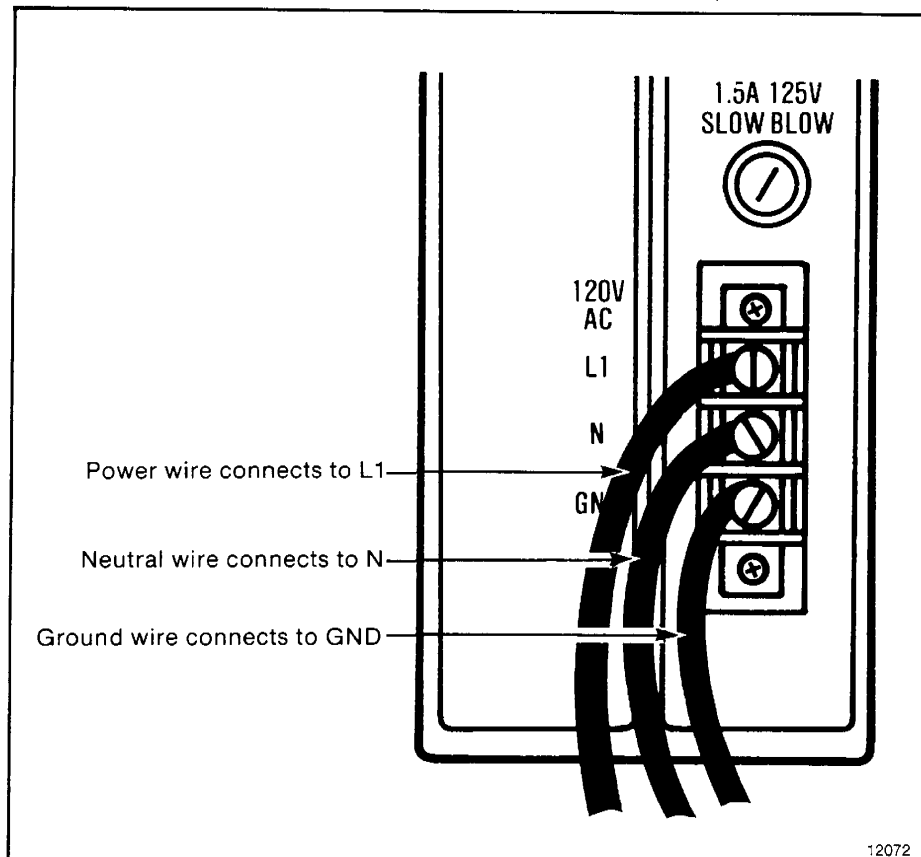

Figure 3.17 — Connect Your Power Cable to the AC Power Supply's Terminal Strip
Step 2 — Loosen each terminal screw and place the appropriate wire under it (figure 3.17).